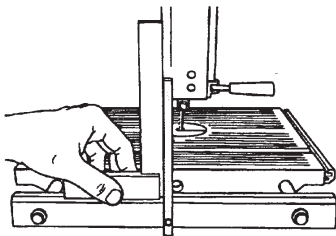

Fig. 20
9. Place a precision square against both the vertical cutter arm (1) and the table extension bar, as shown in Fig. 20. You may need to remove the clamp (9) from the cutter arm (1).